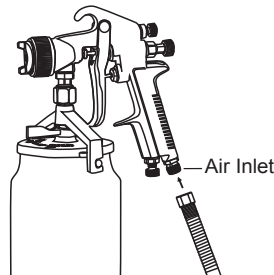

Figure 3
2. Connect air supply hose to the air inlet of the spray gun. Use thread sealant tape (not included) for airtight connection. Do not overtighten. (See Figure 3)